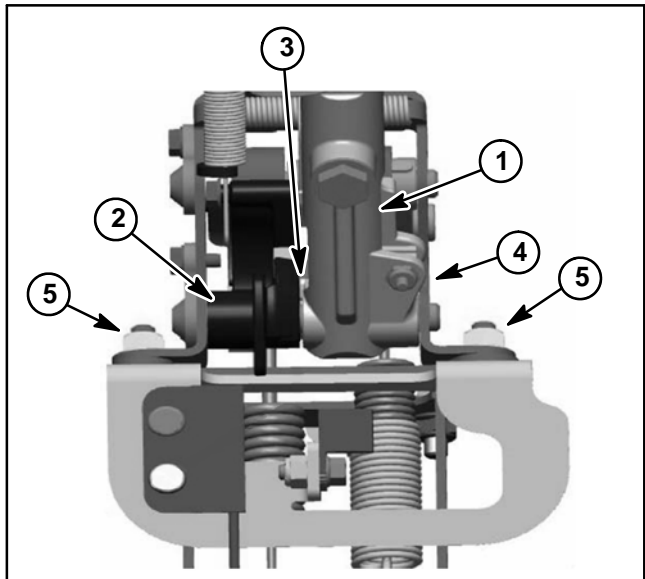

Figure 17
2. Secure switch mount bracket and shift mount to shifter bracket with two (2) flange head screws and flange nuts. Before fully tightening fasteners, position legs of shifter bracket to allow 0.040" (1.0 mm) clearance between transport lever and reel shift lever (Fig. 17).
3. Position lever assembly (including lever assembly, shifter bracket, shift mount and switch mount bracket) to handle. Secure assembly in place with four (4) flange head screws and flange nuts.